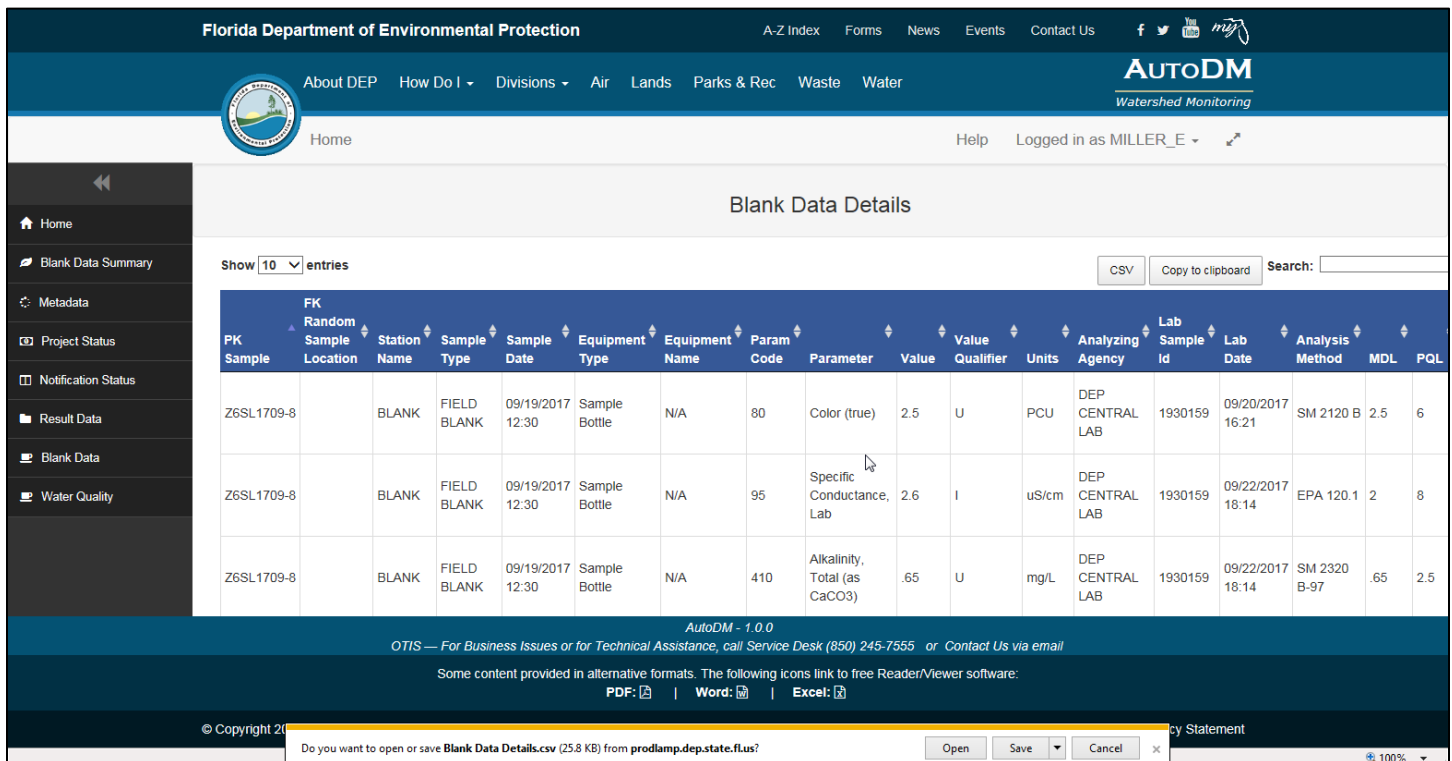

Figure 31. Screenshot of a Blank Data report. Data from project Z6SL1709 is shown as an example.
8. **Blank Data:** This tool generates a report that lists the data available for all field collected blanks in the selected project. Each row in the report contains the data from one analyte for one blank (**Figure 31**). The Project Manager should use this report to look for any issues with the data. If errors are present, a data correction request should be generated and emailed to the Data Manager. To generate the report in the ADM Oracle Forms interface, click the **Blank Data** button. The web browser window will display the data in the AutoDM PHP report interface if that interface has already been opened and logged in to. If the AutoDM interface has not been opened and logged in to, the **Blank Data** button will launch the AutoDM interface. Log in as described in the LOGON SCREEN & WEB BROWSER section of this document, and search for the desired project as described in the SEARCHING FOR PROJECT INFORMATION section of this document. This report can be opened as a .csv file using the AutoDM 'CSV' button or copied using the 'Copy to clipboard' button and pasted into text-editing software or Excel. If using the 'CSV' button, a dialogue box will open at the bottom of the screen prompting the